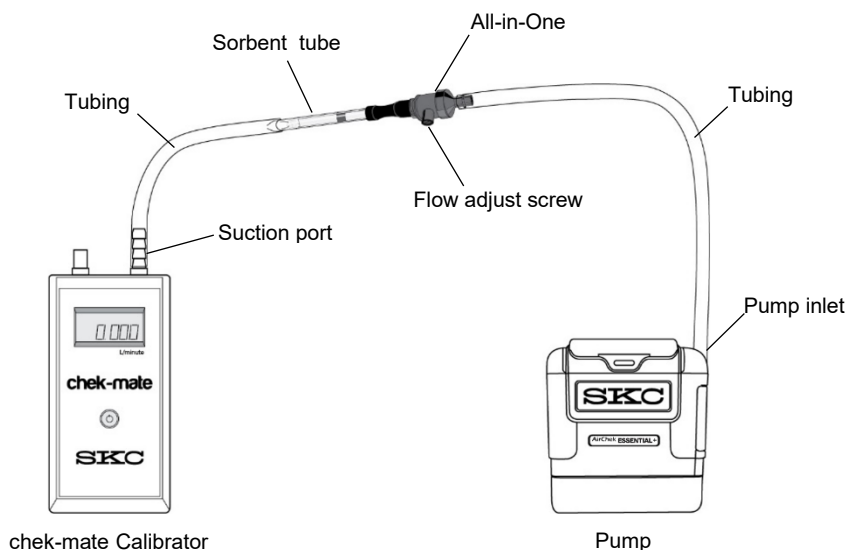

Figure 4. Calibration Train (5 to 500 ml/min) for Single Tube
1. On the tube holder, insert an opened representative sorbent tube (arrow on tube pointing toward the pump) into the rubber sleeve on the port. *See Figure 4.*
Connect the calibrator to the single sorbent tube or the first of multiple sorbent tubes as shown in Figures 4 and 5, respectively.
Calibrate Flow Rate with All-in-One (single tube, see Figure 4)